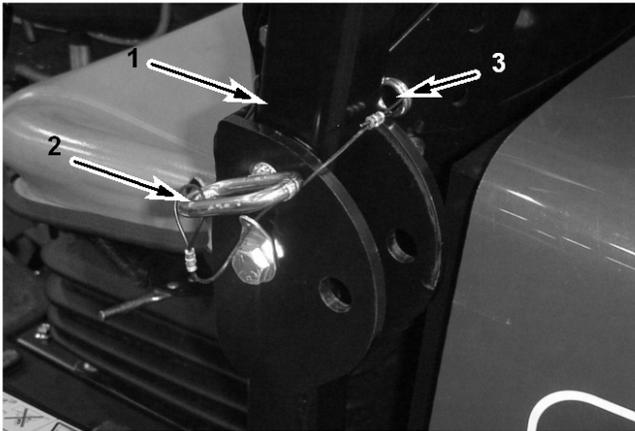

Figure 8
1. Remove the hairpin cotter pins and remove the two pins from the roll bar (Figure 8).
2. Raise the roll bar to the upright position and install the two pins and secure them with the hairpin cotter pins (Figure 8).